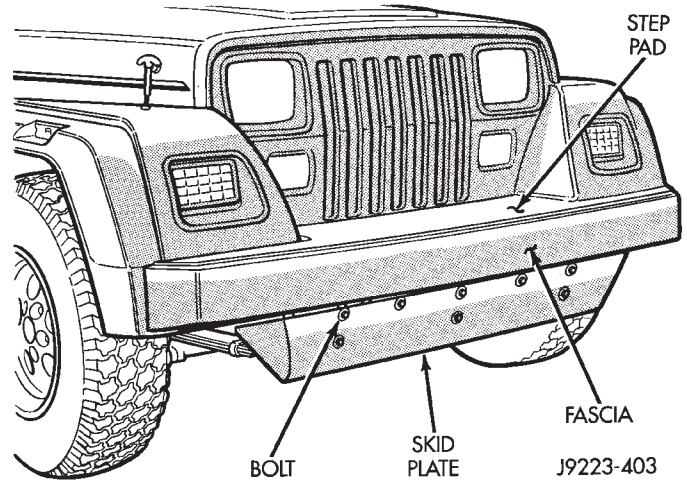

Fig. 46 Front Fascia and Skid Plate
- (1) For convenience, lift the vehicle to a comfortable height on a hoist. Support the vehicle.
- (2) If necessary, remove the step pad from the fascia (Figs. 46 and 47).